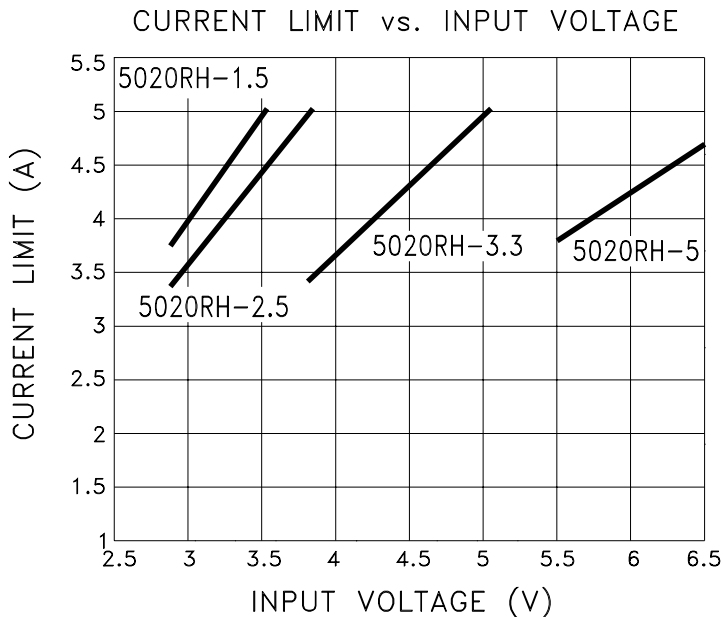

FIGURE 1
- ⑦ Output current limit is dependent upon the values of V_{IN} and V_{OUT}. See Figure 1 and typical performance curves.
- ⑧ Continuous operation at or above absolute maximum ratings may adversely effect the device performance and/or life cycle.
- ⑨ V_{IN} shall be as specified or V_{IN} min., whichever is greater.
The MSK 5920RH current limit function is directly affected by the input and output voltages. Figure 1 illustrates the relationship between V_{IN} and I_{CL} for various output voltages. It is very important for the user to consult the SOA curve when using input voltages which result in current limit conditions beyond 4.5 Amps. When using input voltages which result in current limit above 4.5 Amps, the user must maintain output current within the SOA curve to avoid damage to the device. Note that 5 Amp maximum is due to current carrying capability of the internal wirebonds.